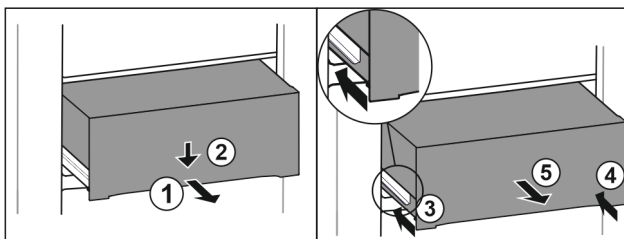

Fig. 212
- ▶ Pull out drawer half-way. *Fig. 212 (1)*
- ▶ Push the drawer down at the front. *Fig. 212 (2)*
- ▶ Push the left rail in by about 2 cm. *Fig. 212 (3)*
- ▶ Push the right rail in by about 2 cm. *Fig. 212 (4)*
- ▶ Remove drawer to the front. *Fig. 212 (5)*